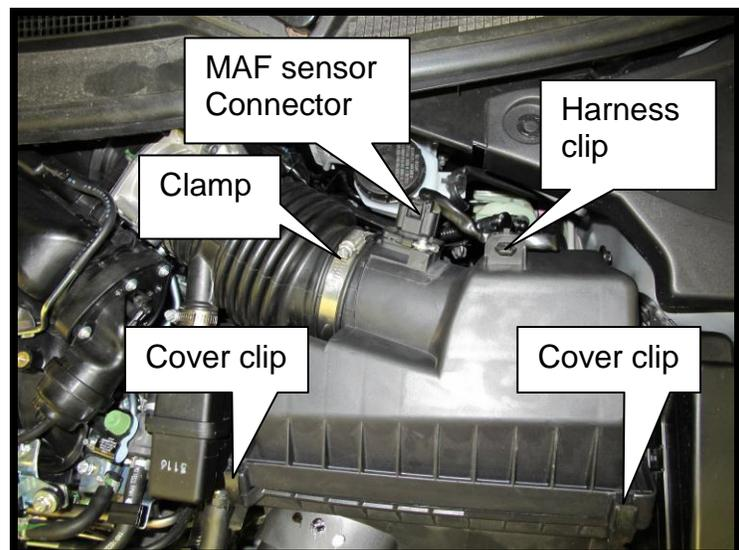

Figure 2
2. Remove upper air cleaner case. Refer to Figure 2: